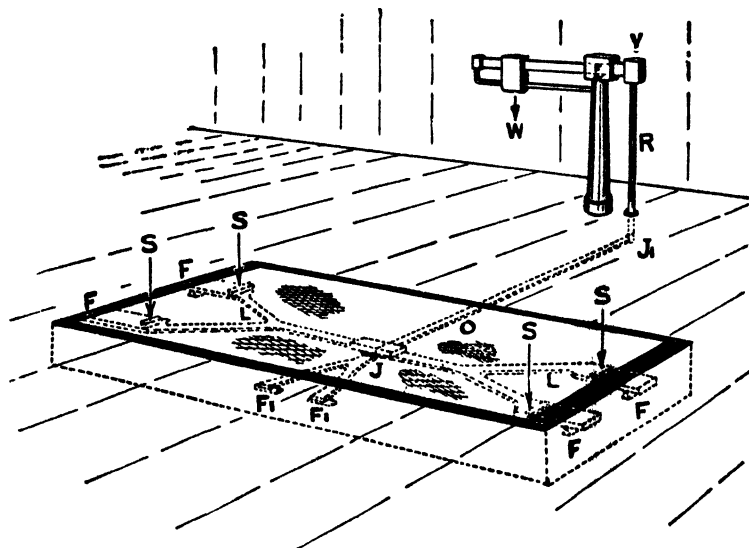

FIG. 85.—The principle of the weigh-bridge.
weight at one end lifts a very large weight at the other end. Fig. 85 gives an idea of the principle of a weighbridge. The platform (shown as transparent) is supported on two big levers (L), linked together in the centre (J), and having their fulcrums (F) supported by the masonry of the pit over which the platform stands. Since the four places (S) where the platform rests on the levers are only about a twentieth of the way from the fulcrum, a weight of five tons on the platform gives a downward push of only about five cwt. on the link. The link at J pushes another lever (O), and